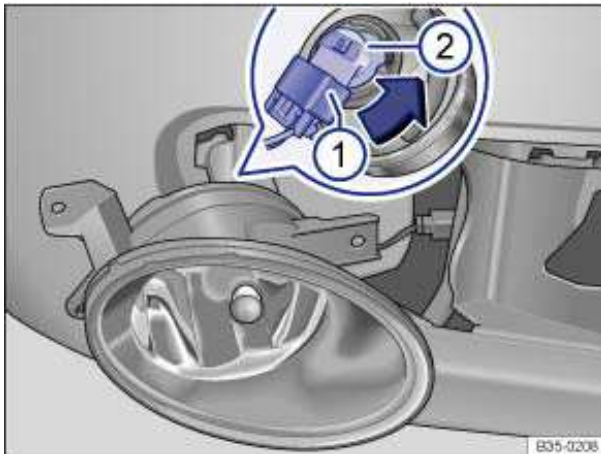

Fig. 191 In the removed light: Replacing the bulb.
| 7. | Release the connector ⇒ fig. 191 (1) and disconnect it. |